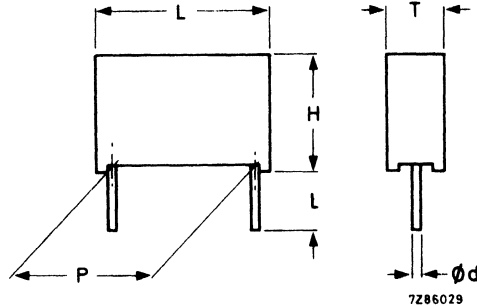

Fig. 2 Capacitors 2222 330 4
Table 2 U_R (AC) = 250 V, Fig. 2